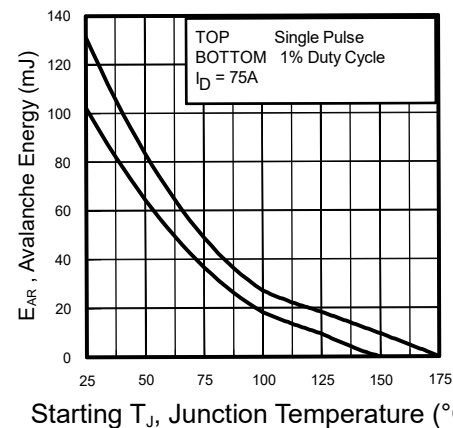

Figure 18: Maximum Avalanche Energy vs. Temperature
Notes on Repetitive Avalanche Curves , Figures 18, 20:
7. ΔT = Allowable rise in junction temperature, not to exceed T_{jmax} (assumed as 25°C in Figure 18, 20).